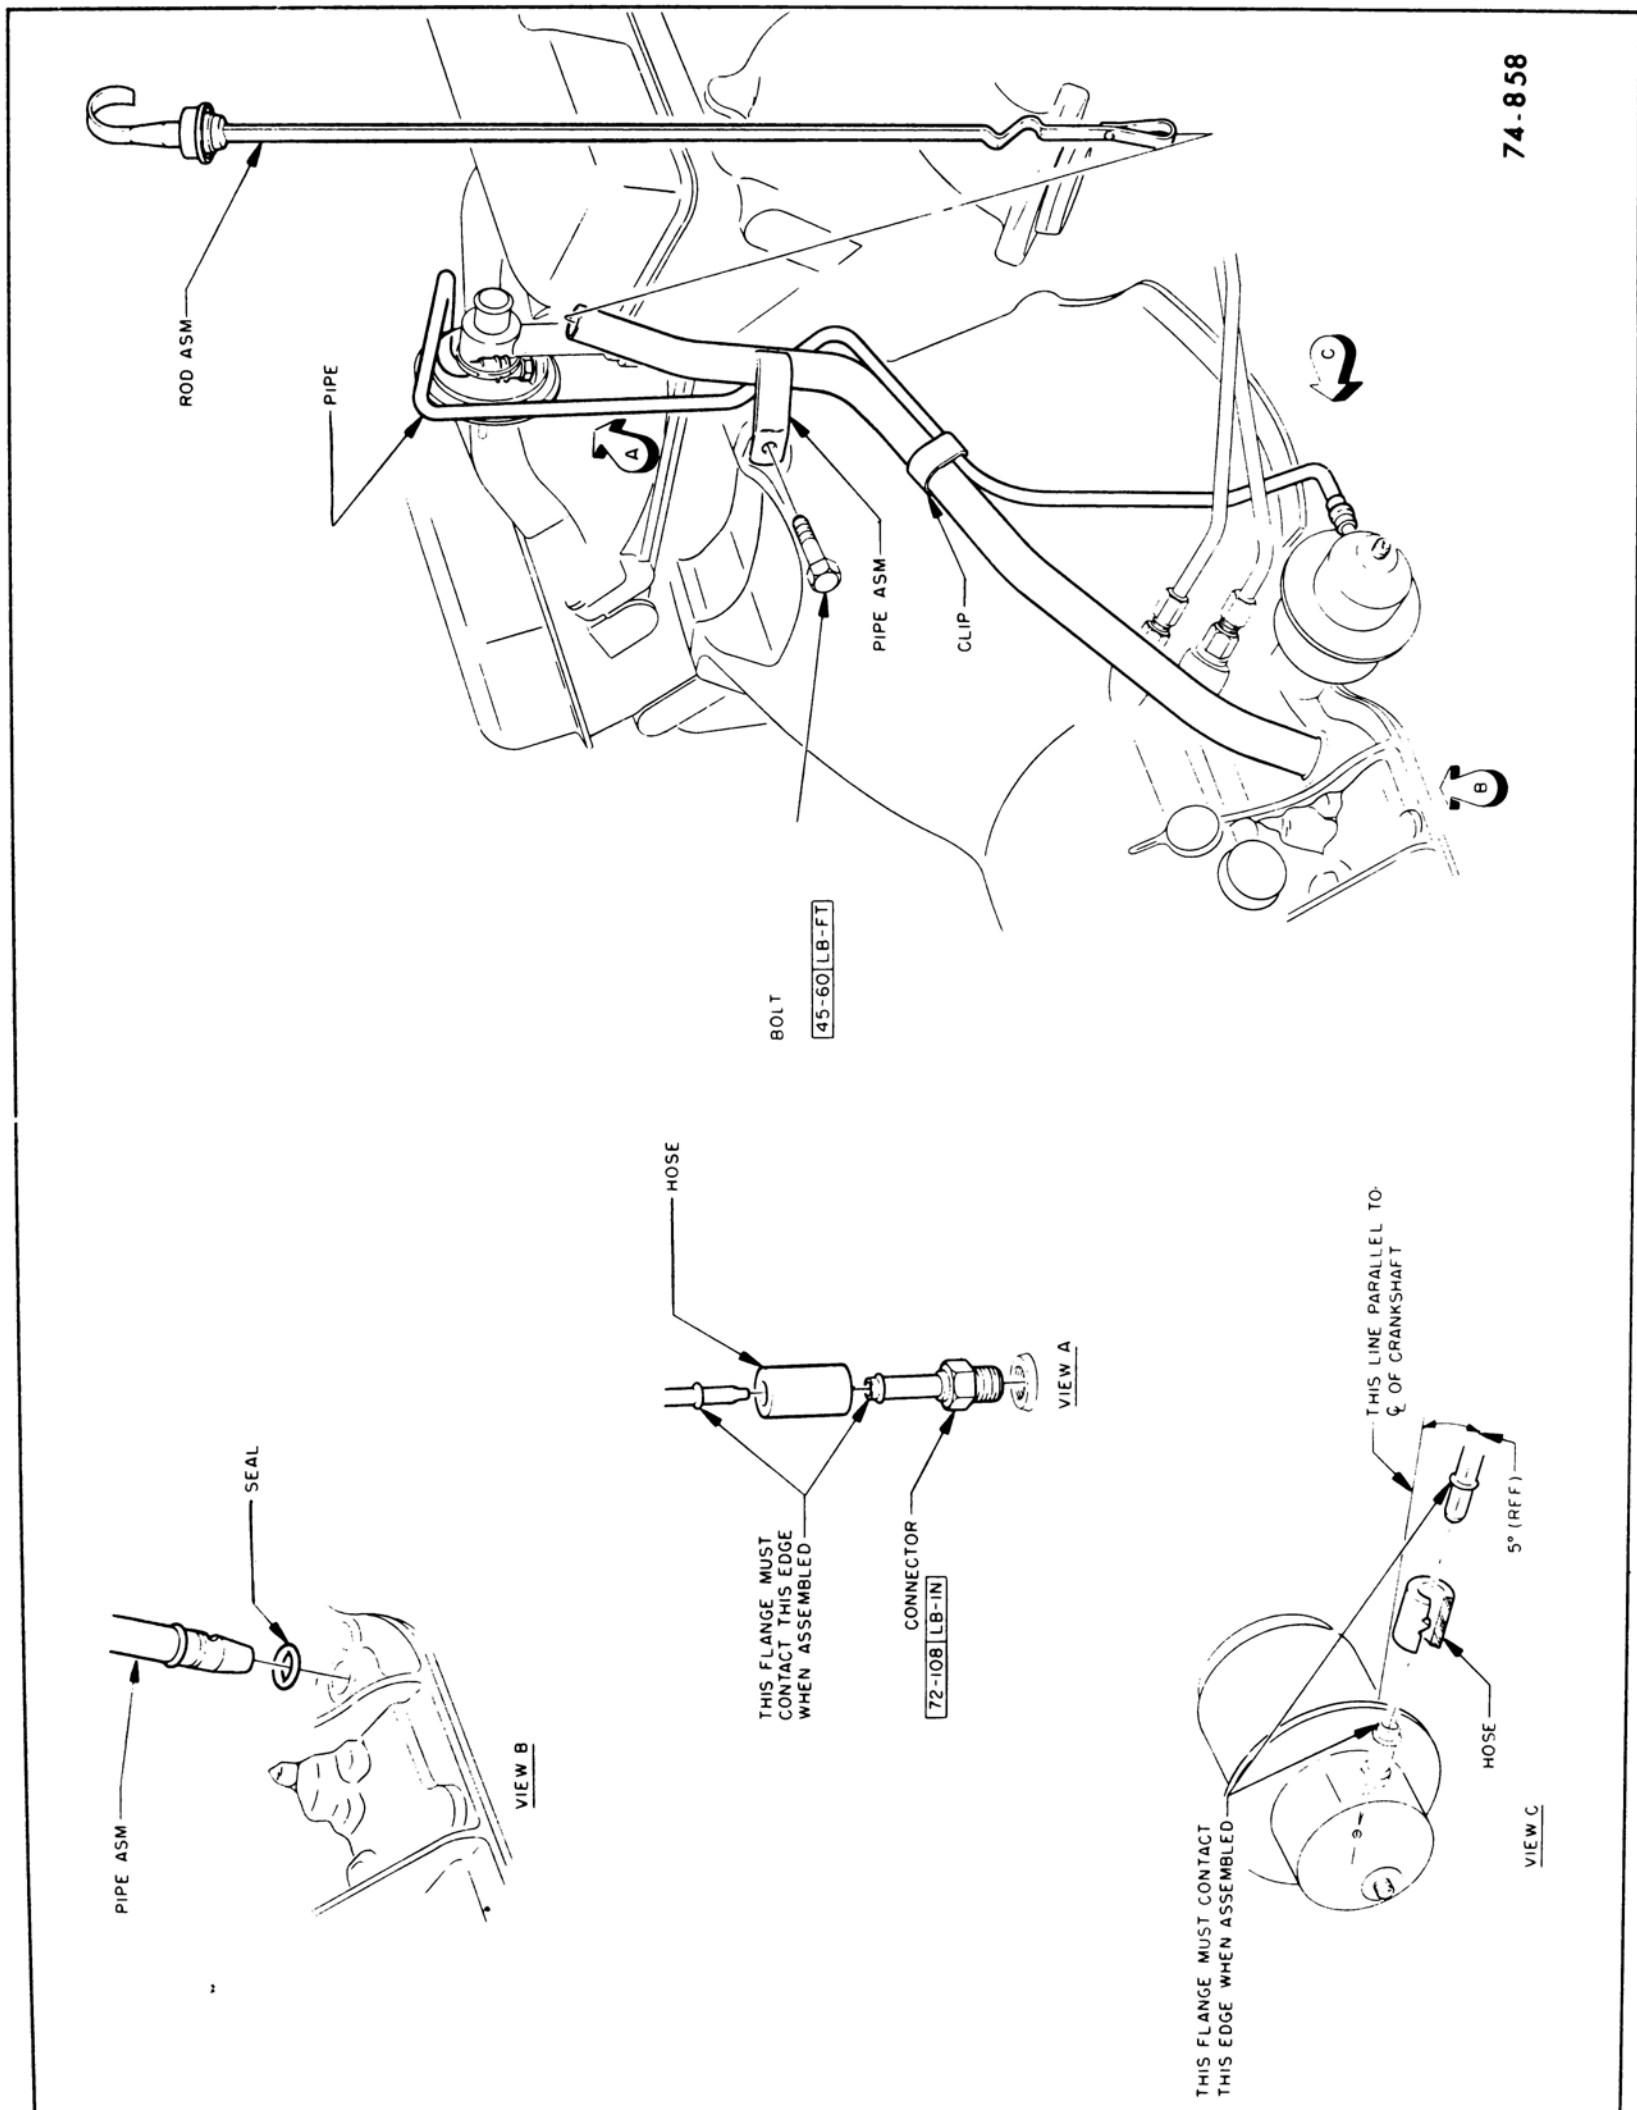

Figure 74-502—Vacuum Modulator Line and Dipstick
5. Remove vacuum line from vacuum modulator. See Figure 74-502.